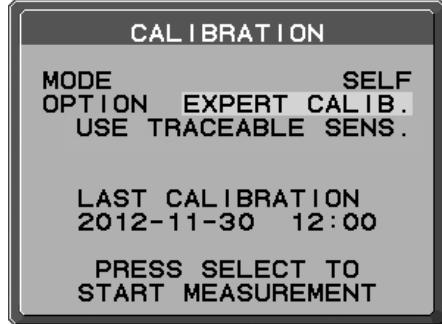

Figure S.1
2. Use "LEFT" or "RIGHT" to select SELF in the MODE selection (**Figure S.1**). Press SELECT to go to the next section.